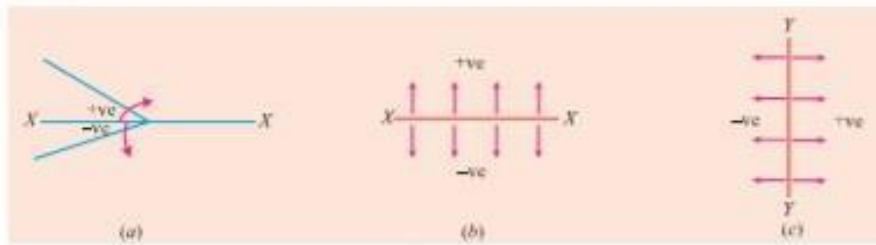

Fig. 7.13
1. The angle is taken with reference to the $X-X$ axis. All the angles traced in the anticlockwise direction to the $X-X$ axis are taken as negative, whereas those in the clockwise direction as positive as shown in Fig. 7.13 (a). The value of angle θ , until and unless mentioned is taken as positive and drawn clockwise.
2. The measurements above $X-X$ axis and to the right of $Y-Y$ axis are taken as positive, whereas those below $X-X$ axis and to the left of $Y-Y$ axis as negative as shown in Fig 7.13 (b) and (c).